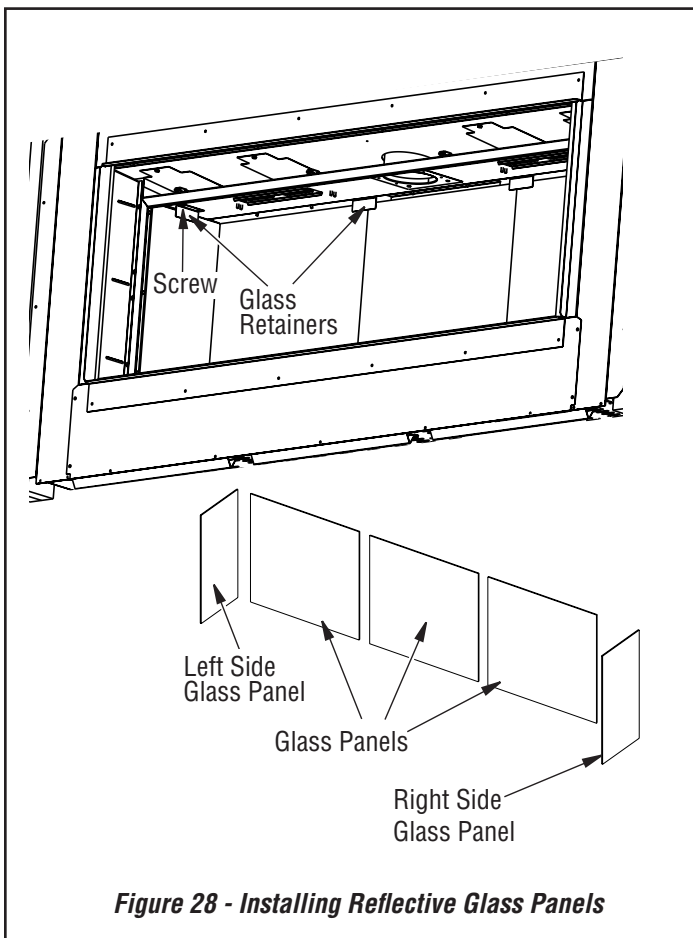

Figure 28 - Installing Reflective Glass Panels
5. Install the three rear glass panels using 2 retaining brackets and screws starting from the left to right side (**Figure 28**)